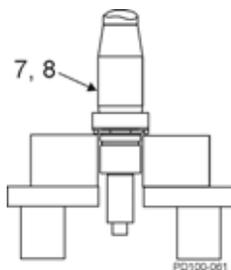

Figure 77 - Grease Shaft
- Lubricate the front bearing area of the shaft (Figure 77, item 7, 8) with oil or grease. Place it upright in a hydraulic press with the liquid end down.